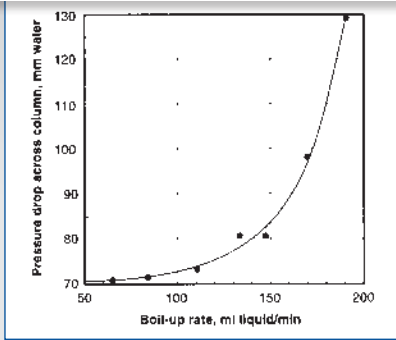

Fig. 1: Column pressure drop as a function of boil-up rate
- pressure drop across the column as a function of boil-up rate (Fig. 1)
Figs 1, 2, 3 and 4 and Table 2: Results taken from Armfield UOP3CC Distillation Column in the Process Laboratories of the Department of Chemical Engineering, University of Aston, U.K. courtesy of Dr. J. D. Jenkins